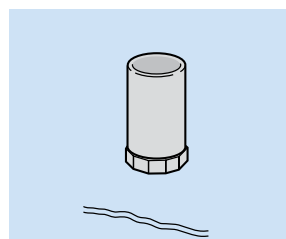

Fig. 59
- Dress first layer of felt up to pipe (Fig. 59)